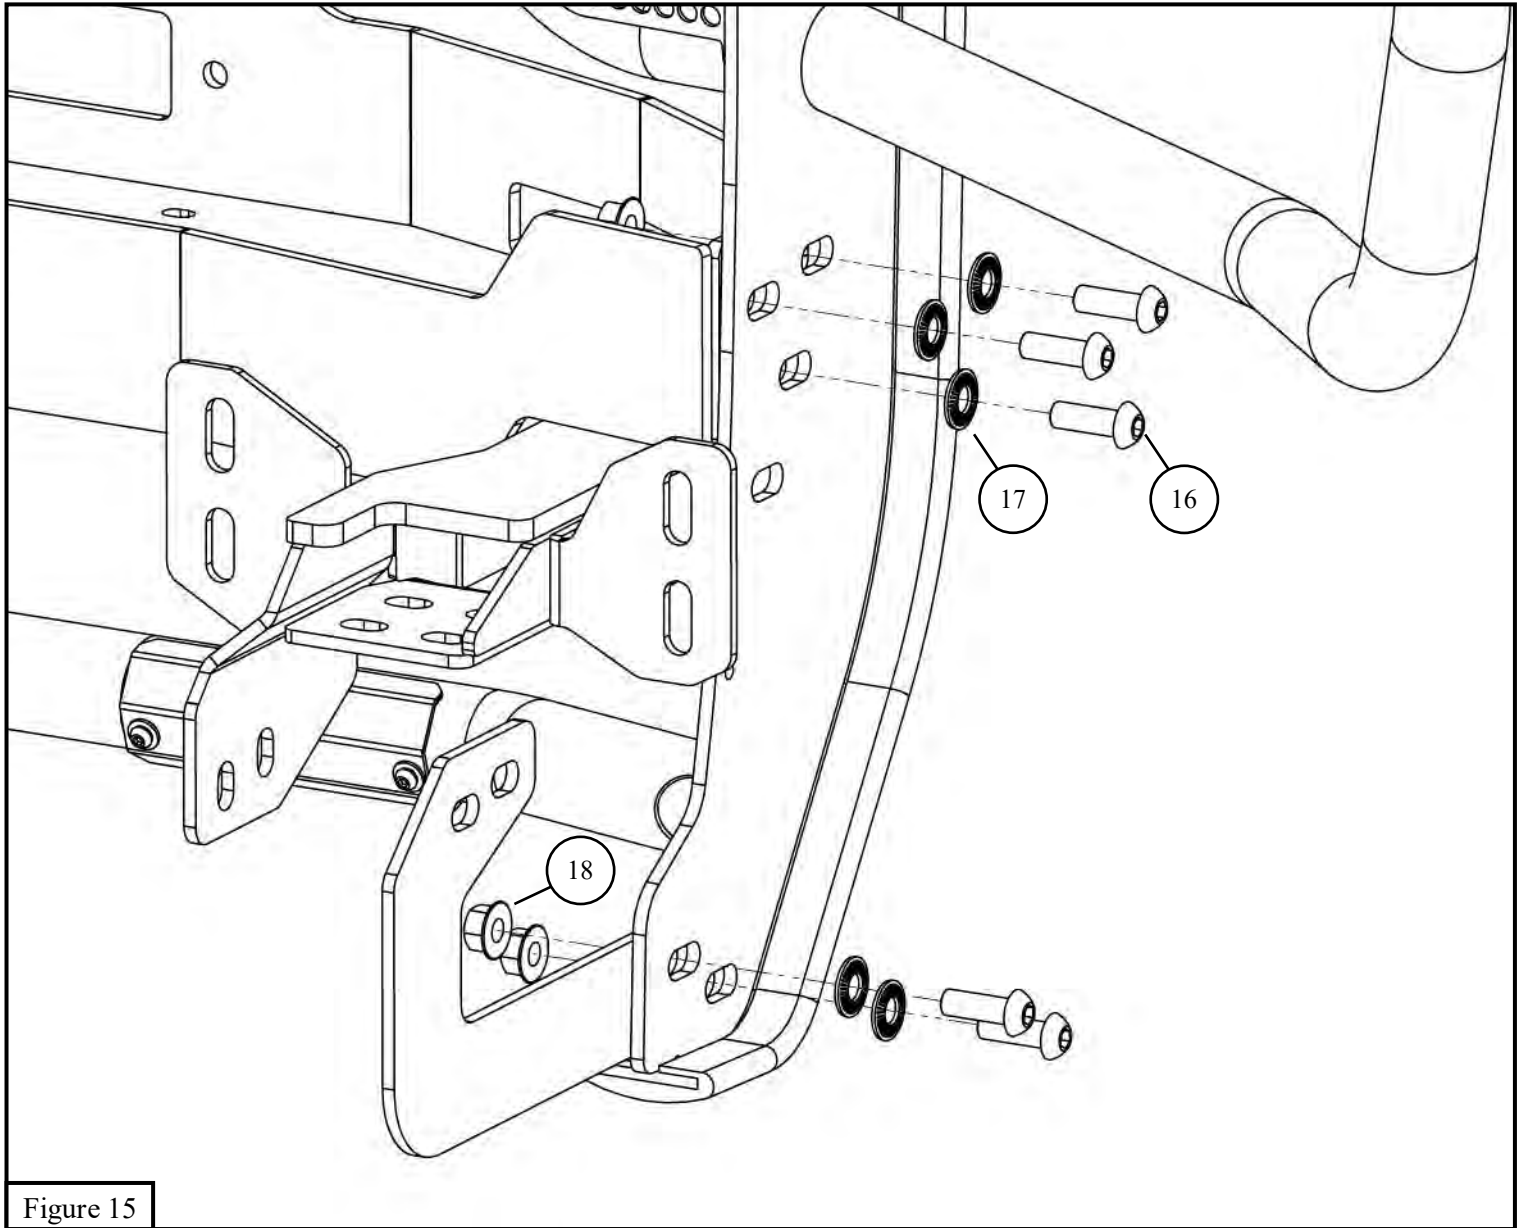

Figure 15
28. Loosely install the grille guard assembly (**item 1**) onto the winch tray and brackets using the black M12 hardware (**items 16-18**). See **Figure 15**.
33. Use the zip ties (**item 19**) to hold the sensor harness extenders in place.